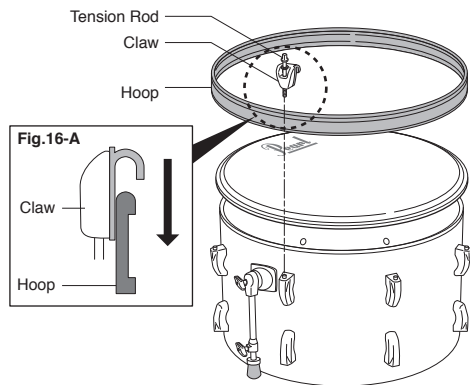

Fig.16
1. Place the Front Head on the Bass Drum shell as shown with the Pearl logo up and square the Pearl logo (Fig. 16). Place the Bass Drum hoop over the head with the flat side of the hoop facing down (Fig. 16-A). Hook a Tension Rod and Claw on the Hoop above each lug and tighten the Tension Rods using the provided Drum Key.